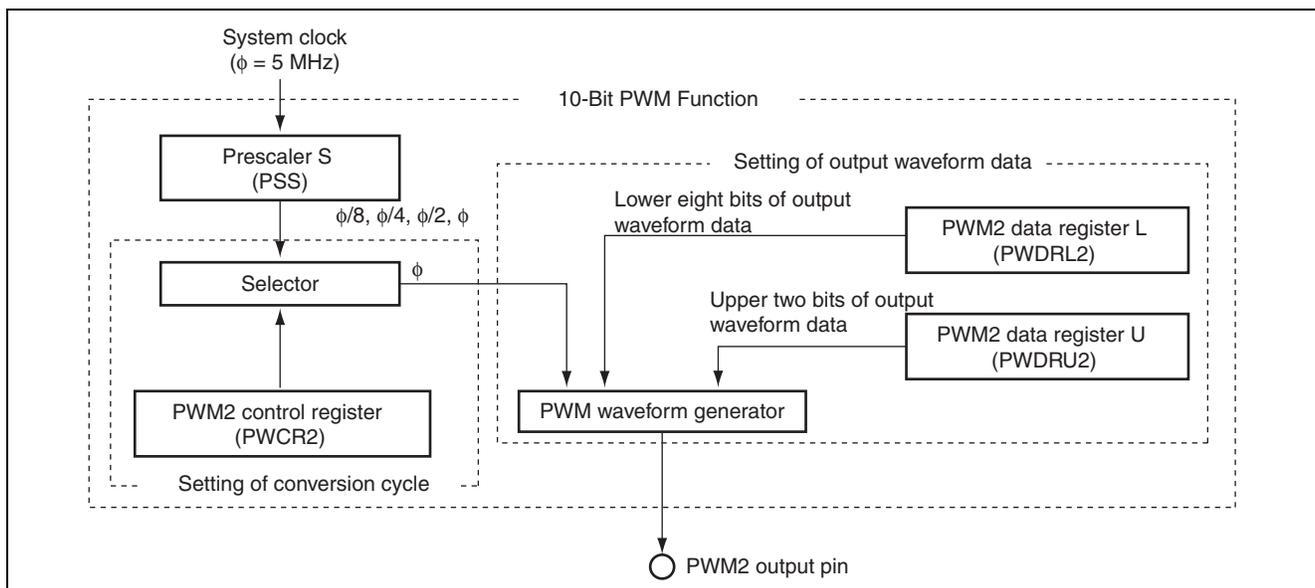

Figure 3.2 Block Diagram of PWM2
A. Figure 3.2 shows the block diagram of the 10-bit PWM function. The following explains the block diagram of this function.